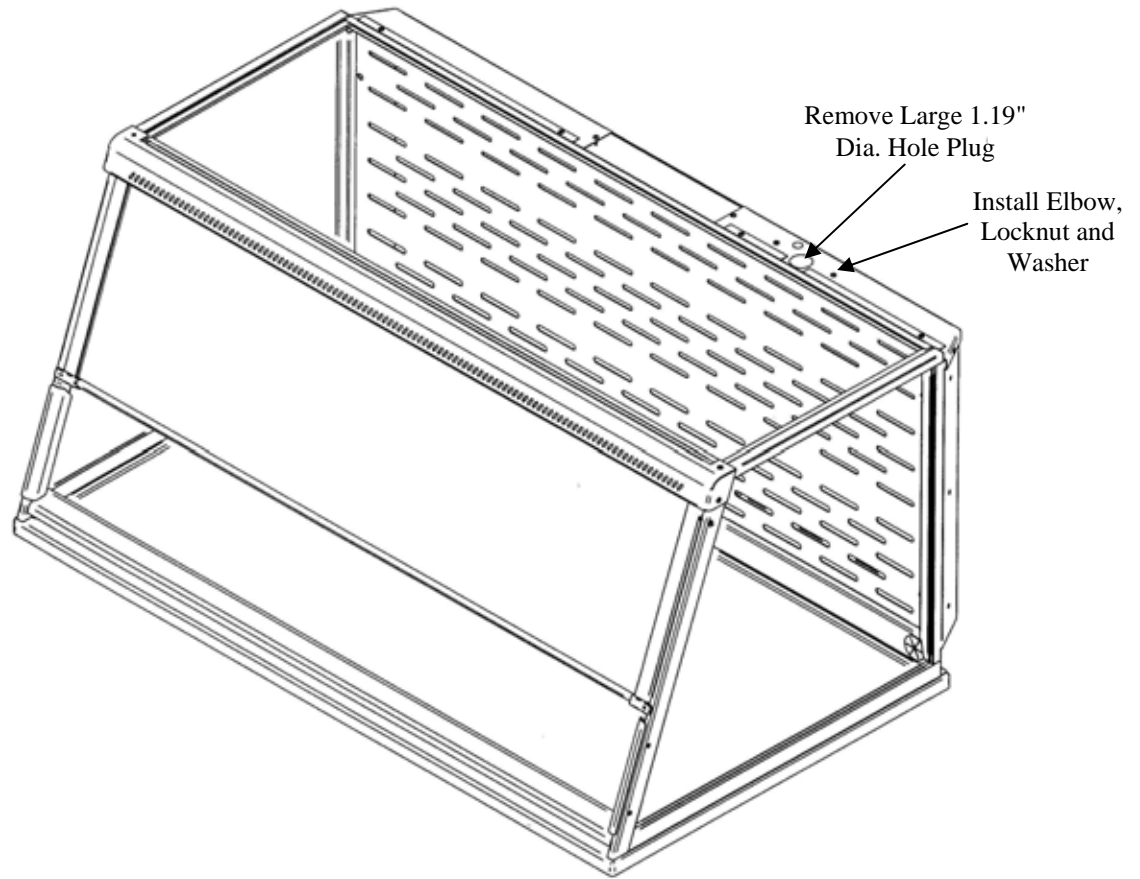
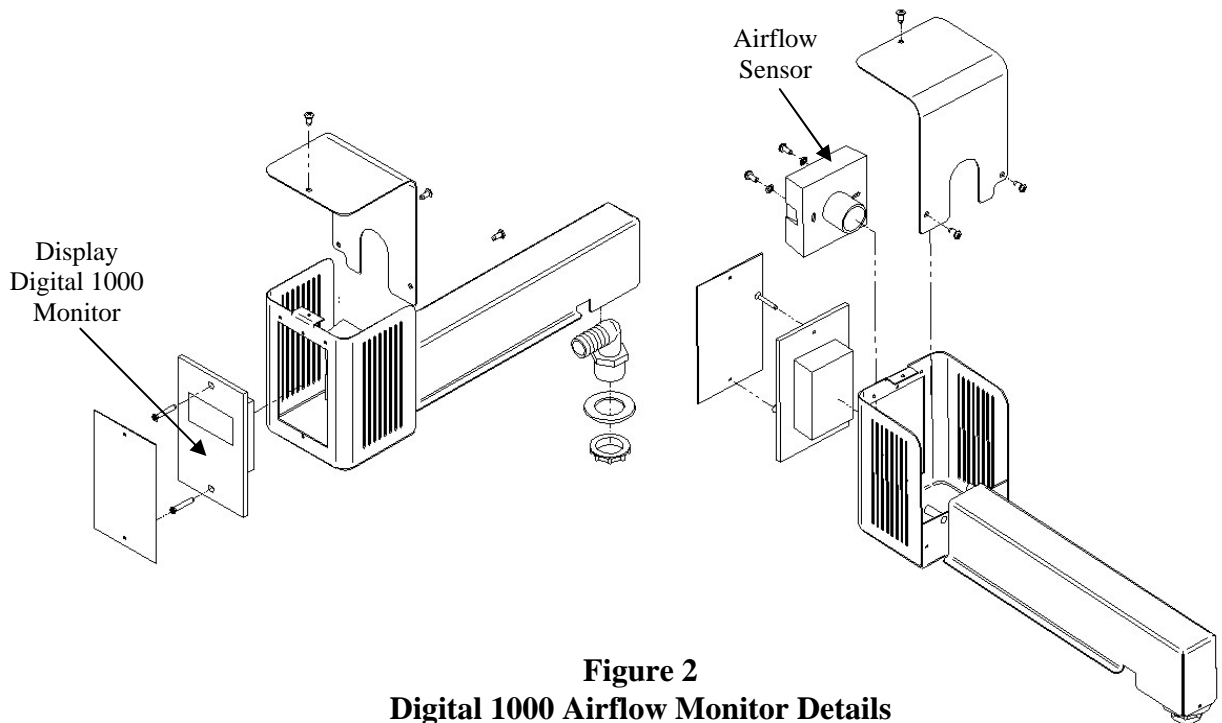

Figure 1
Figure 2
2. First remove the large 1.19" dia. gray hole plug. See Figure 1. See Figure 2 only to reference internal assembly of the airflow monitor. Locate the elbow, locknut, and washer and install it in the 1.19" dia. hole per Figure 1 and Figure 2. The enclosure baffle pivots down to install the elbow, washer and locknut.